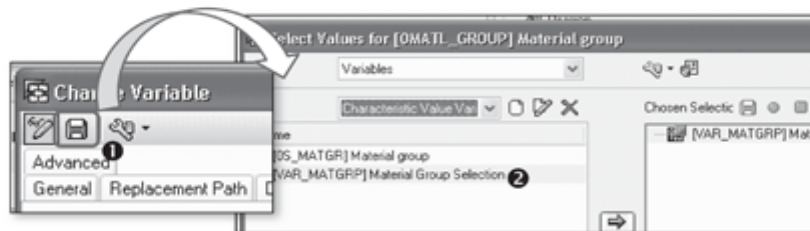

Figure 9.29 Save Variable VAR_MATGRP
Finally, save the definition by clicking the Save button as shown in ❶ of Figure 9.29.
The newly created variable VAR_MATGRP is now displayed in the variables list of the characteristic material group (❷ of Figure 9.29) and can be used to restrict the characteristic in the query.